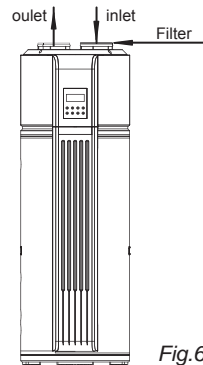

Fig.6-7
- Filter installing at the main unit inlet. In terms of the main unit connect with canvas, filter in there must be put forward to the air inlet of duct. (Fig.6-7/6-8)